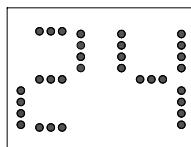

Fig.1
1. Extend either side of the hose (Fig.1)
Before change, in cool mode, the screen display like fig1.